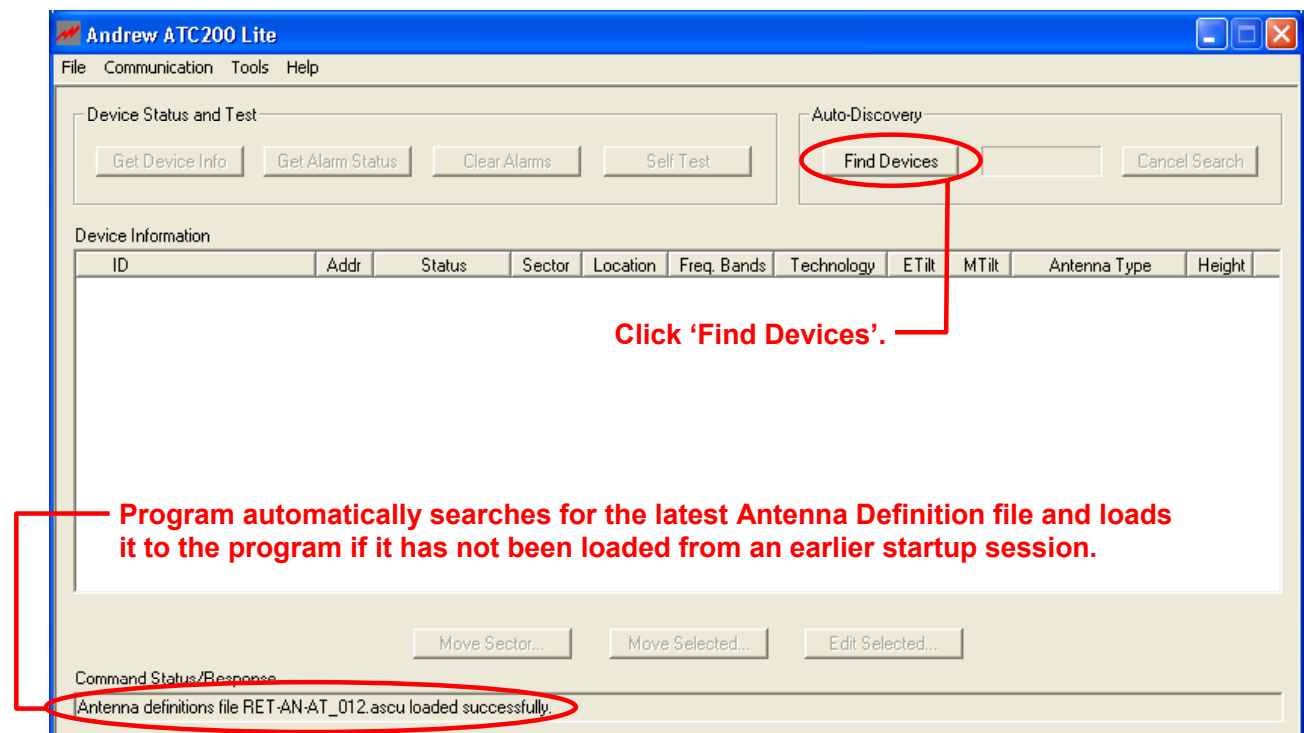

Figure 4-1. Startup Screen Ready for Device Search.
1. From the program startup screen, click 'Find Devices' to start the device search (Figure 4-1).